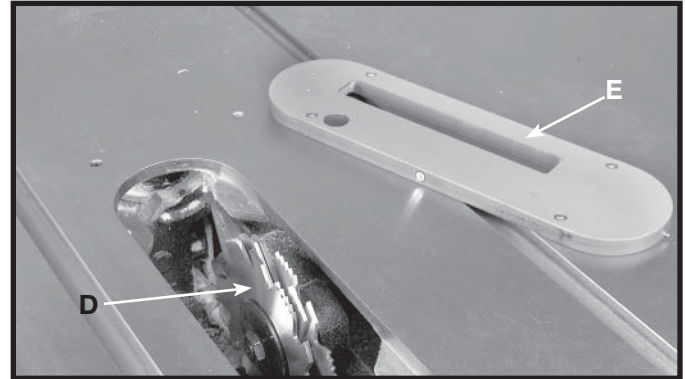

Fig. S20
⚠ CAUTION THE ACCESSORY DADO HEAD SET TABLE INSERT (E) FIG. S20, MUST BE USED IN PLACE OF THE STANDARD TABLE INSERT.
2. Attach the dado head set (D) Fig. S20, to the saw arbor. **NOTE: IF THE ARBOR NUT DOES NOT FULLY ENGAGE THE THREAD ON THE ARBOR, REMOVE THE OUTSIDE ARBOR FLANGE AND TIGHTEN THE ARBOR NUT AGAINST THE DADO HEAD SET BODY. DO NOT LOSE THE OUTSIDE ARBOR FLANGE. IT WILL BE NEEDED WHEN REATTACHING A BLADE TO THE ARBOR.**